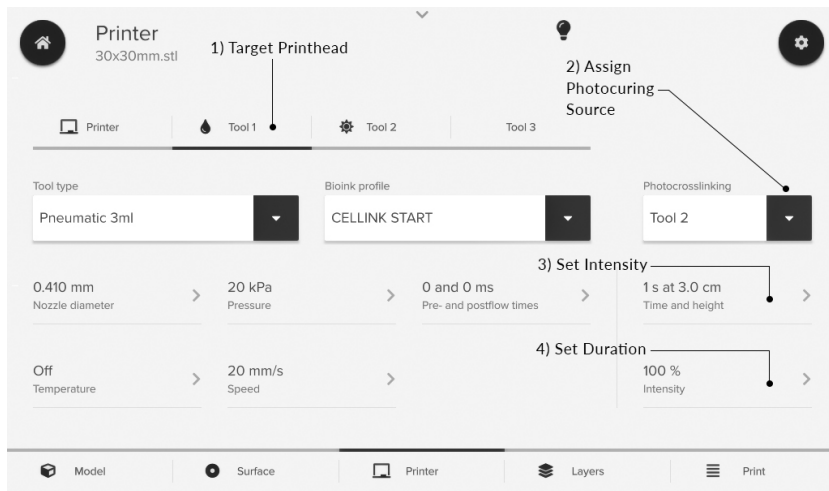

Figure 9: Selecting the Photocuring Toolhead's assignment, intensity and duration.
7. Proceed to the submenu of the toolhead containing photocrosslinkable bioink. In this tutorial, it is the first toolhead mount position (Figure 9).